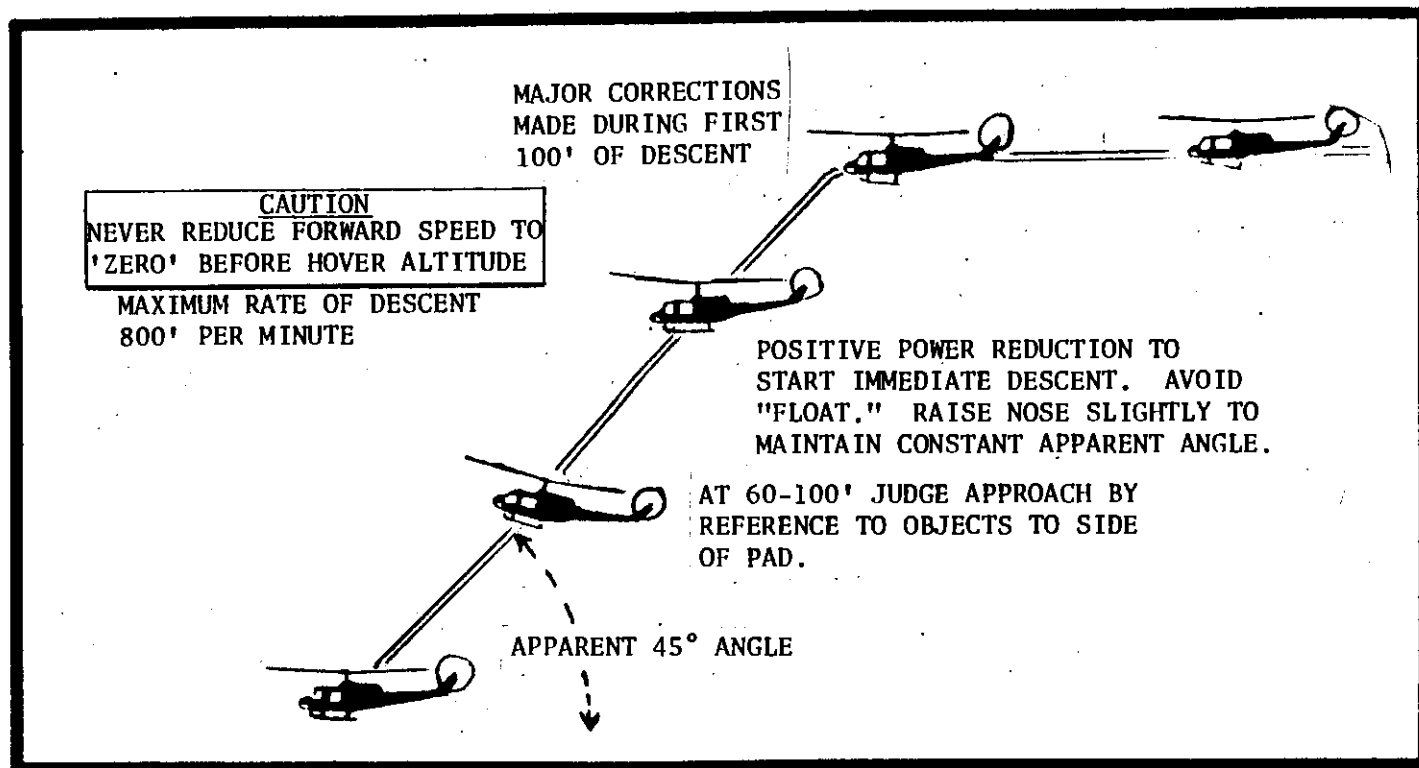

Figure 3-4. Steep Approach
(1) Required:
(2) Analysis. The approach is initiated from 300 ft above the landing spot with 30 knots ground speed. Use 30 KIAS for little or no wind. As the wind velocity increases, increase the entry airspeed. When the desired angle is intercepted, lower the collective to begin the descent. The apparent angle at which the approach is started will be maintained throughout the approach. After the approach is entered, use the collective to control the angle and the rate of descent. Use the cyclic to control the ground speed. Combine the two controls to effect a smooth transition (rate of closure) to zero ground speed at a 4 foot hover over the landing spot or a touchdown. (See figure 3-4.)